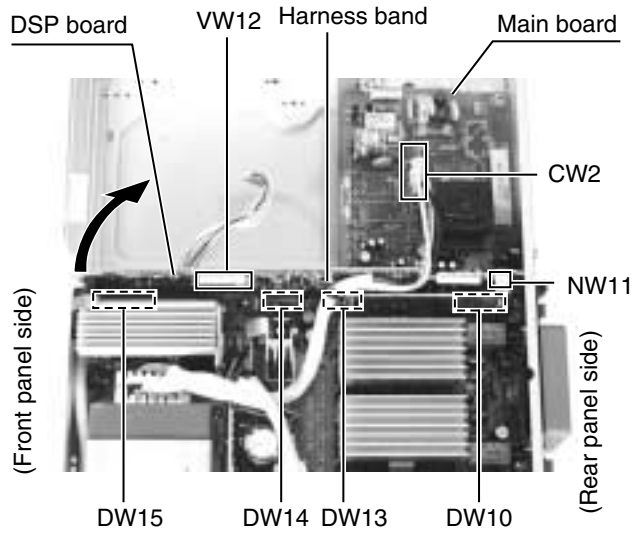

Fig.9
■ Removing the DSP board (See Fig.9)
2. Disconnect the harness from the connector CW2 on the main board (see fig.9) and PW1, PW2 on the DVD power board.